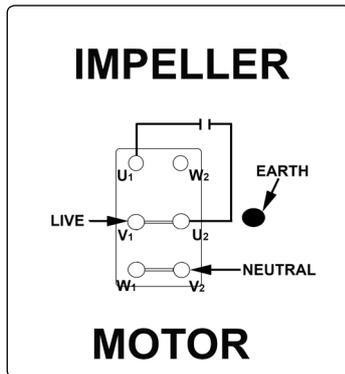

Fig.1A
- 4.1.1. The power cable (not supplied) is wired to the unit through the power supply connection box (refer to Fig.2 & Fig.3). Use Figs.1A & B as a guide to wiring the unit.